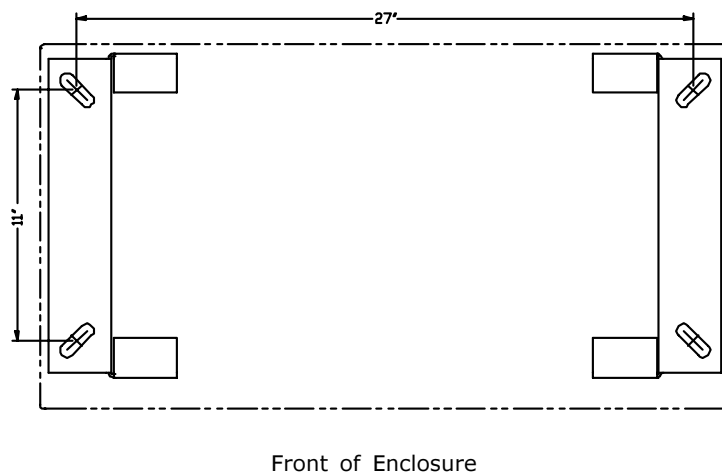

Figure 2-4; Novus XT 2000 Ground Mount Footprint
4. Using enclosure with mounting brackets installed as a template, mark the location at which the 1/2" anchor bolts will be installed. (Refer to Figure 2-4)